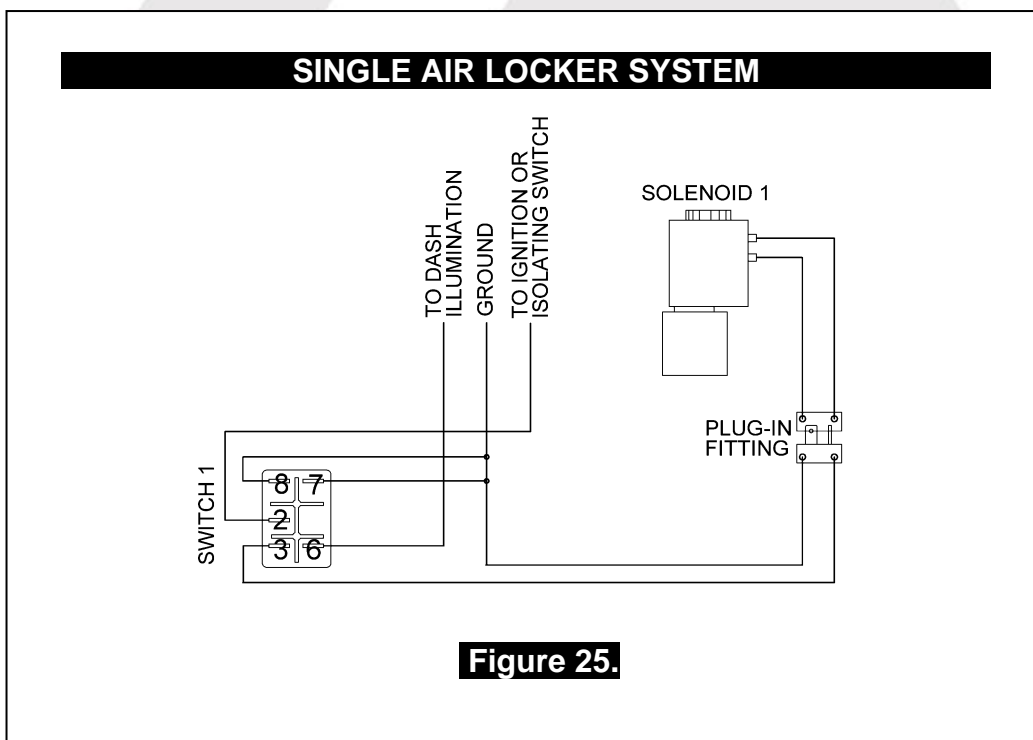

Figure 25.
When connecting the actuation switch to an alternate air source, the switch(es) should be wired according to figures 25. and 26. depending on whether one or two *Air Lockers* will be installed in the vehicle.
- If only one *Air Locker* is to be installed in the system, the switch and solenoid should be wired according to figure 25. regardless of whether the *Air Locker* has been installed in the front or rear axle of the vehicle.